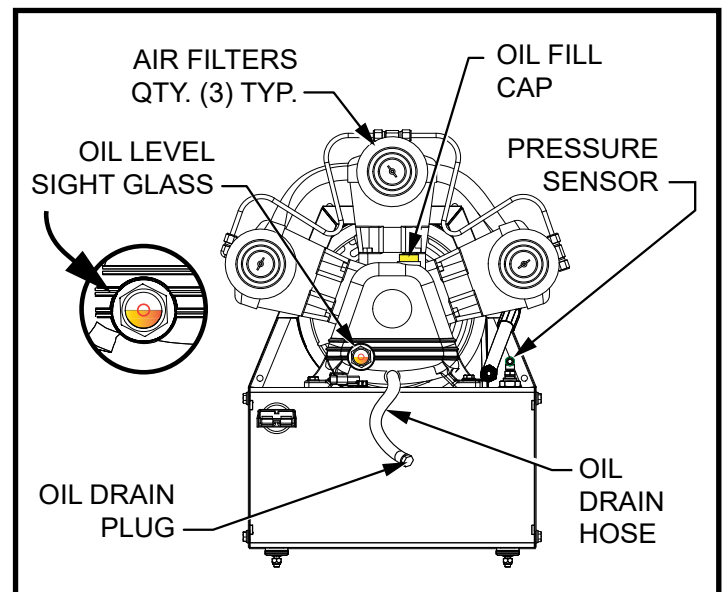

Figure 1-4
1. Always check the oil level prior to each use. Use the sight glass on the compressor located on the lower, front left of the unit. Running the unit with incorrect oil level can lead to serious damage or failure of the equipment. (See Fig. 1-4)
4. If oil level is below 1/4 full, remove the oil fill cap (See Fig. 1-4) and carefully add oil until level is at the halfway mark as mentioned in previous section. Always use Vanair® Reciprocating Compressor Oil for the AIR20.
In addition to daily maintenance - once per week check the air filters. Clean, or replace them if there is heavy build-up. (*See Figure 1-4*)
4. Carefully remove the oil fill cap from the top. Place a container beneath the drain plug hose to collect the oil as it drains. (*See Fig. 1-4*) The compressor may be hot.
9. To remove, loosen the bolt on the tensioner pulley (*shown in Figure 1-4*) and slide the pulley all the way to the right. There should be enough slack to carefully pull one belt off while rotating the fan wheel with your free hand, being careful not to pinch fingers between the wheel and the belt. Repeat for second belt.